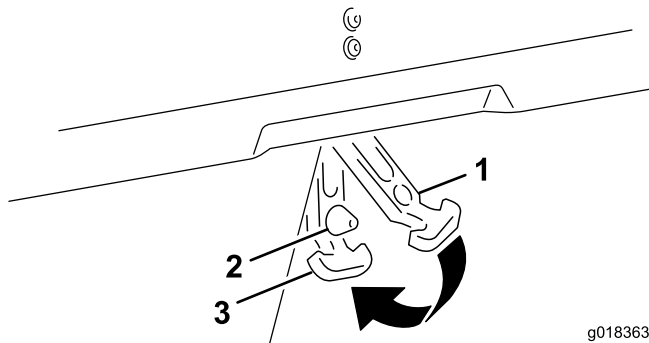

Figure 6
- Align the hole in the rubber hood latch with the hood rod (Figure 6).
- Push the hood latch over the end of the hood rod as shown in Figure 6.